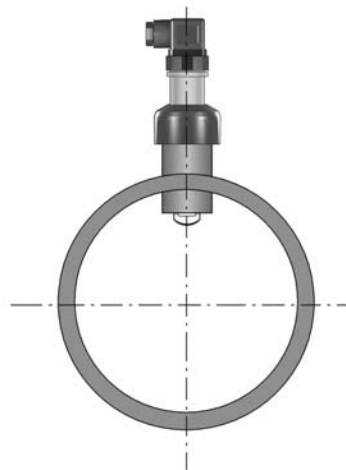

Fig. 2
- Fig. 2: installation with no air bubbles present